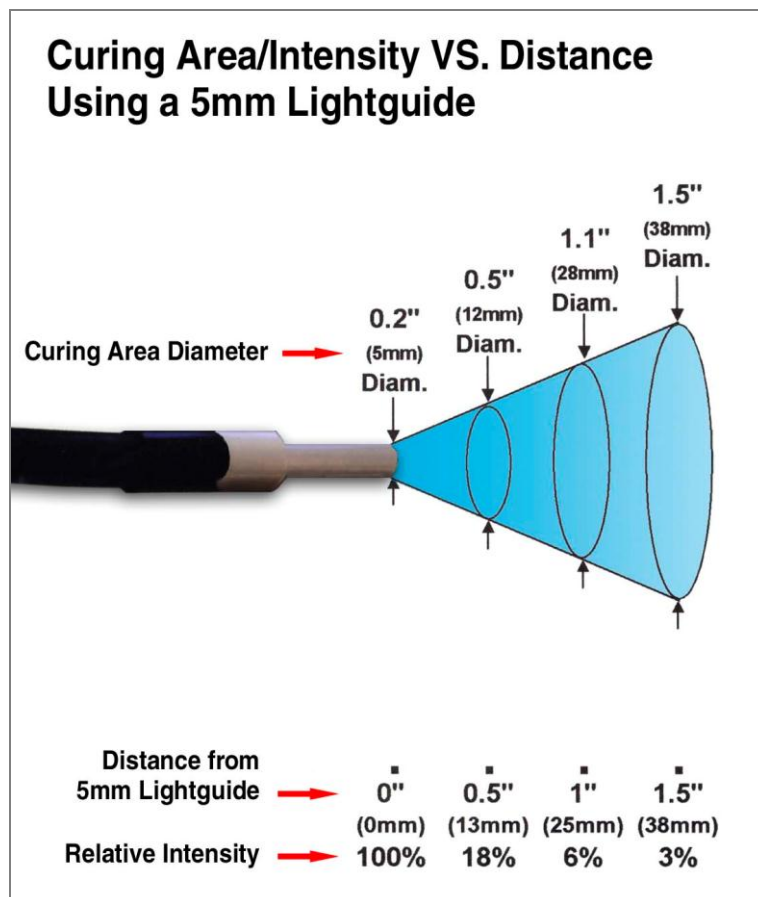

Figure 15. Curing Area/Intensity VS. Distance using a 5-mm Lightguide
4. The lightguide can be hand held, fixed over the curing area using an optional Lightguide Mounting Stand (PN 39700), or fixtured using custom tooling. The UV and visible light emitted from a lightguide diverges. As a result, the intensity decreases and the curing area increases with distance from the end of the lightguide. Figure 15 shows this relationship for the 5-mm liquid lightguide. Values given are for general reference; actual intensities can be measured using a radiometer.